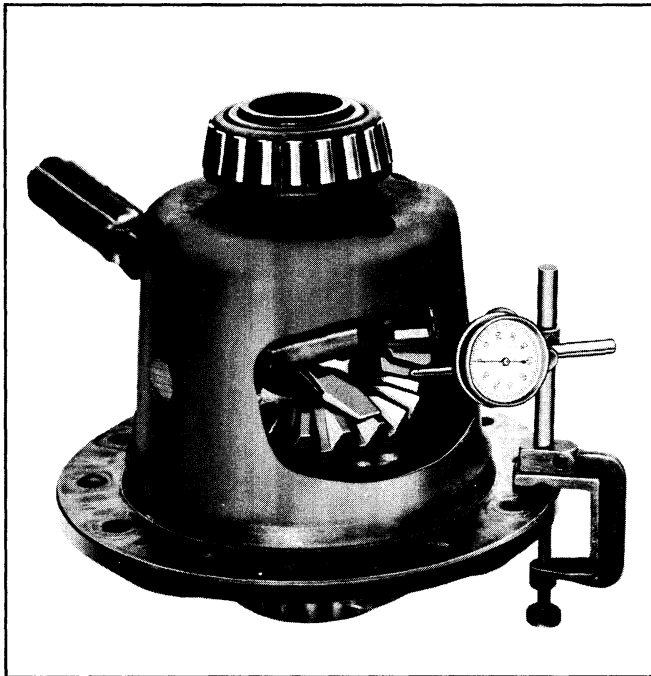

Fig. 4-8 Checking Pinion to Side Gear Clearance
d. Install dial indicator KMO-30 with the contact button against the pinion gear (Fig. 4-8).